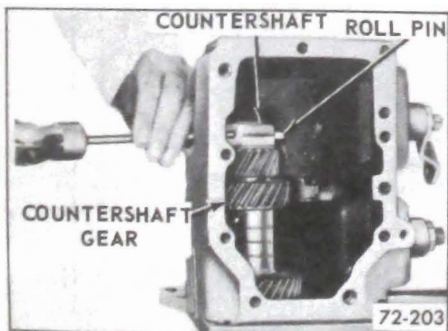

Figure 72-203 - Removing Countershaft Shaft Retaining Pin
5. Through filler plug hole drive out countershaft to case retaining pin. See Figure 72-203.